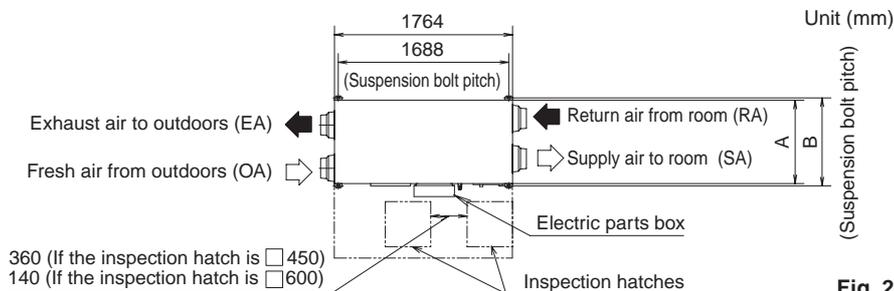

Fig. 2
1. Confirm the positional relationship between the unit and suspension bolts. (Refer to Fig. 2)